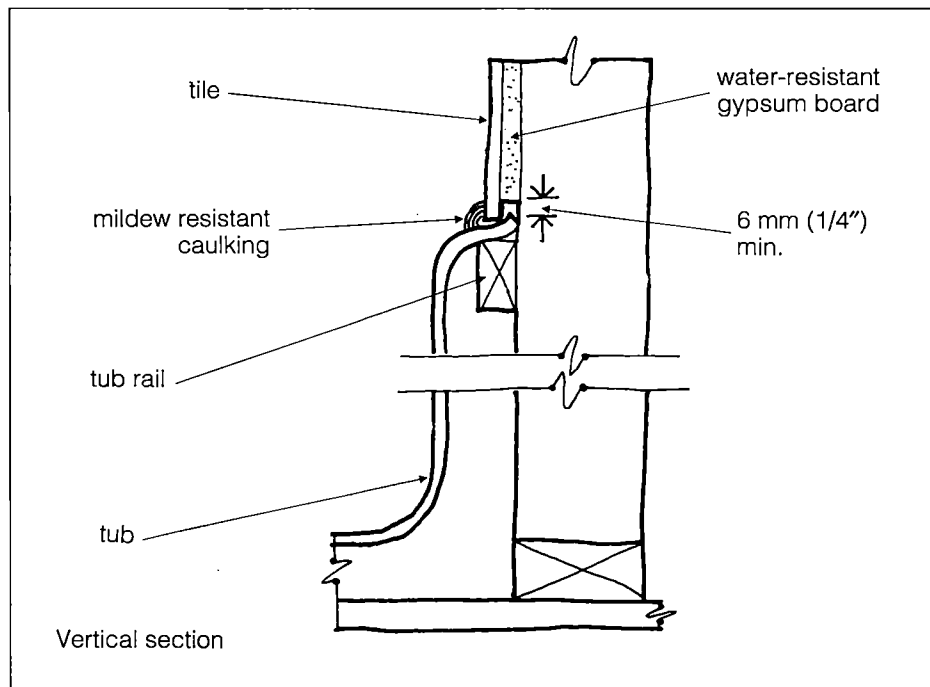

Fig. 24. Bathtub detail
- Allow 6 mm (1/4") space between the drywall and the surfaces of the tub, shower floor or return (fig. 24).